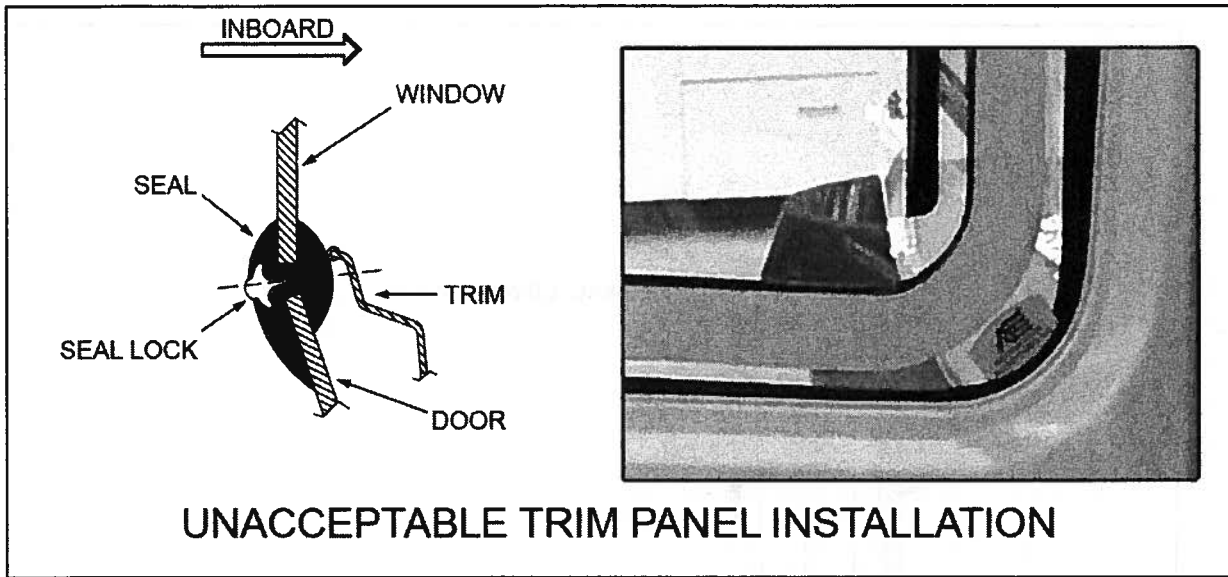

FIGURE 7 – UNACCEPTABLE PANEL INSTALLATION
16. Reinstall upper interior door trim panel, if previously removed, ensuring the inside edge of the upper interior door trim panel is adequately trimmed for seal to function correctly. A minimum of one-half of the seal flange width must be exposed around the perimeter (see Figures 7 and 8).